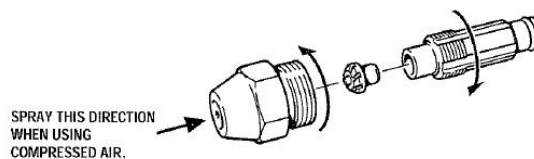

Fig 2.3.21
8. Clean Nozzle (refer to Fig 2.3.21)